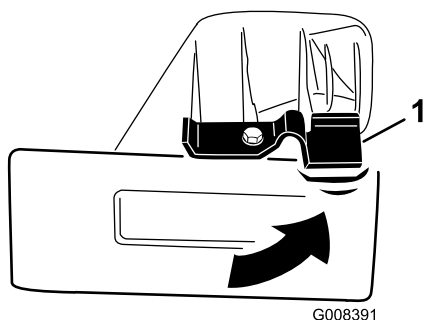

Figure 24
2. Rotate the lock counterclockwise on the mulch plug to the unlocked position (Figure 24).